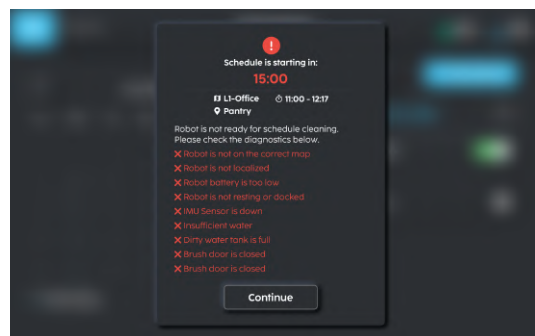

FIGURE 6-30
3. If the machine is not ready to clean, the checks will be displayed and the user should take action to ensure that the requirements are met (**Fig. 6-30**).